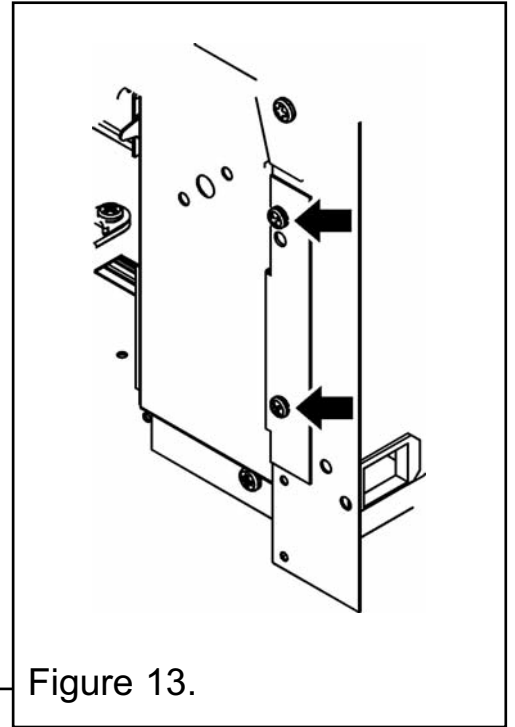

Figure 13.
1. With the fascia trim removed, unscrew and remove the two screws from the lower right hand side of the heater (See figure 13) then align the four holes in the firefront assembly with those on the heater (See figure 14). Secure with the two screws removed previously and two screws supplied.